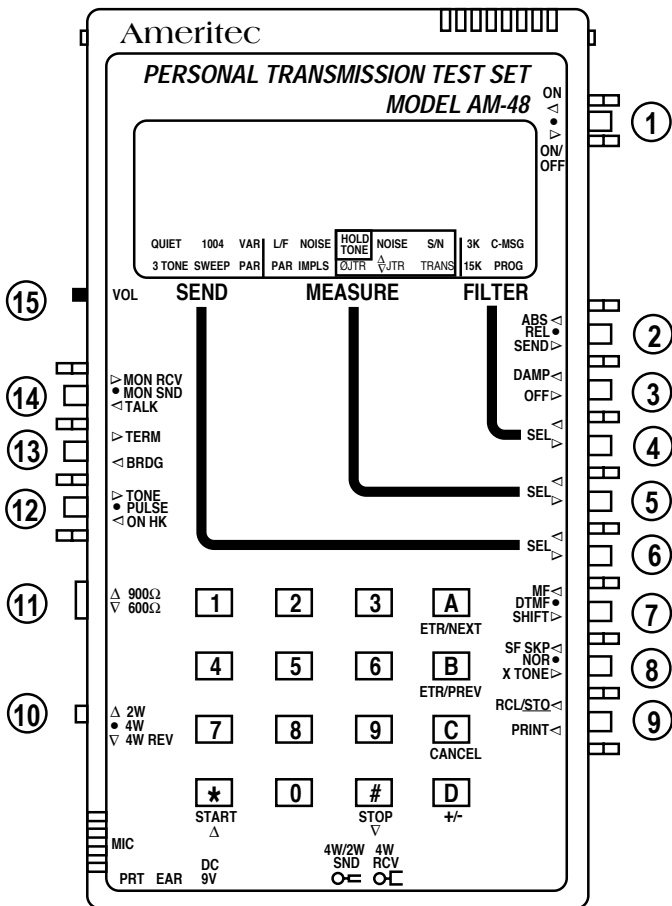

Figure 3-5. AM-48 Switch Identification Numbers
Figure 3-5 shows the location of the AM-48 switches. The functional descriptions of the switches in this paragraph follows the same numbering scheme as Figure 3-5.
Switches are referred to by number throughout this manual. See Figure 3-5 for ease of reference of switch numbers.
Rocker Switches: The other 12 switches are rocker switches. The action of these switches is rather like a rocking chair. Rock the appropriate switch toward or away from the front panel as indicated by the arrows to activate the desired function. There are various combinations between toggle and/or momentary switching action as explained in the functional descriptions which follow (reference Figure 3-5).
① **16-Key Array.** The function of the keys depends on the positions of Switch 7 and Switch 12 (Figure 3-5). See Table 7-1.